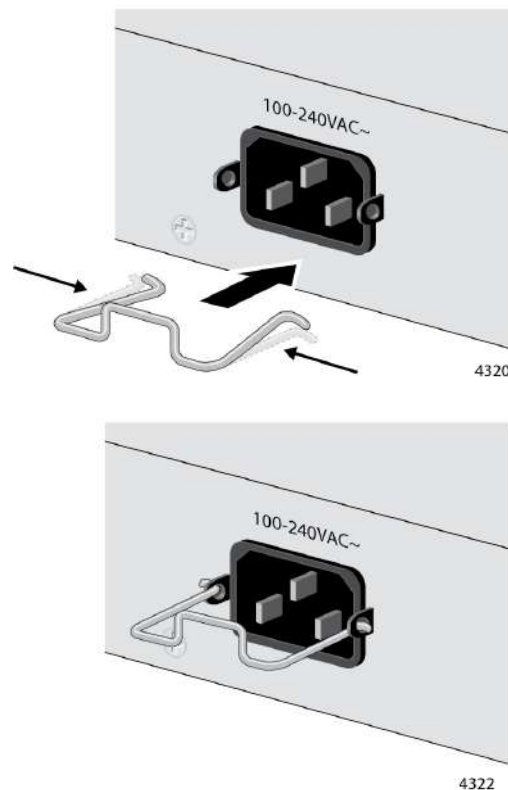

Figure 34. Installing the Retaining Clip
1. Position the power cord retaining clip with the “u” part facing down, press in the sides, and insert the ends of the clip into the holes in the retaining bracket on the AC connector. See Figure 34.